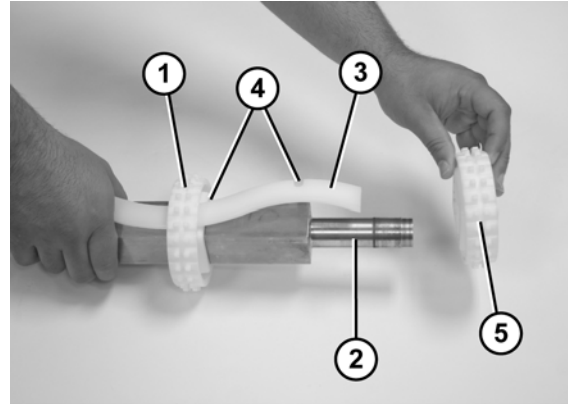
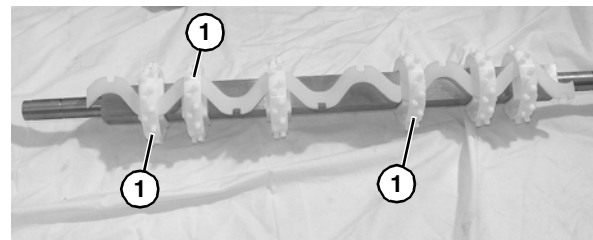

Figure 73
Figure 74
1. Slide the first sprocket (Figure 73, item 1) onto the drive spindle (Figure 73, item 2).
2. Insert the sprocket alignment bar (Figure 73, item 3) into the first sprocket and align the sprocket with the notch (Figure 73, item 4) in the sprocket alignment bar.
3. Slide the remaining sprockets (Figure 73, item 5) onto drive spindle and align each sprocket with the notches (Figure 73, item 4) in the sprocket alignment bar. Be sure that at least three sprockets (Figure 74, item 1) are positioned such that they are on alternate opposing locations on the alignment bar.